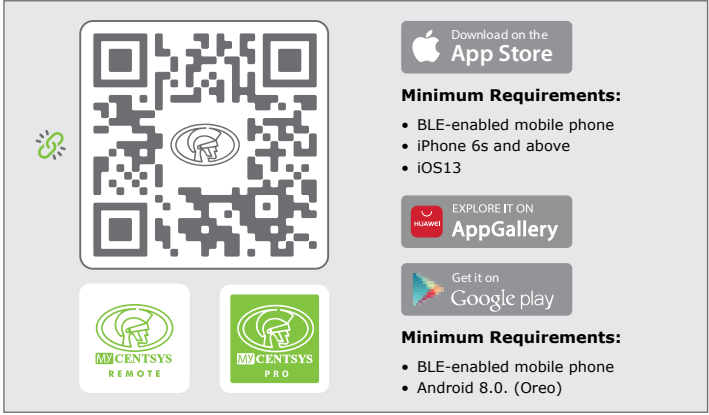

FIGURE 63
1. Scan the QR Code in Figure 63.